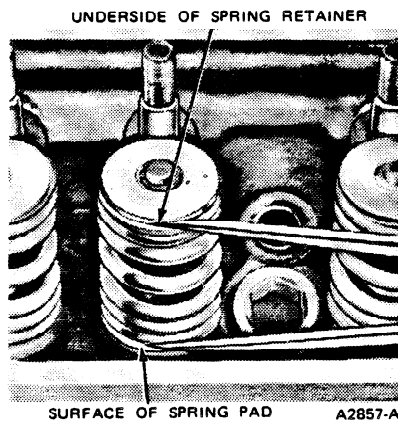

FIG. 63 Checking Valve Spring Assembled Height
- Measure the assembled height of the valve spring from the surface of the cylinder head spring pad to the underside of the spring retainer with dividers (Figure 63).